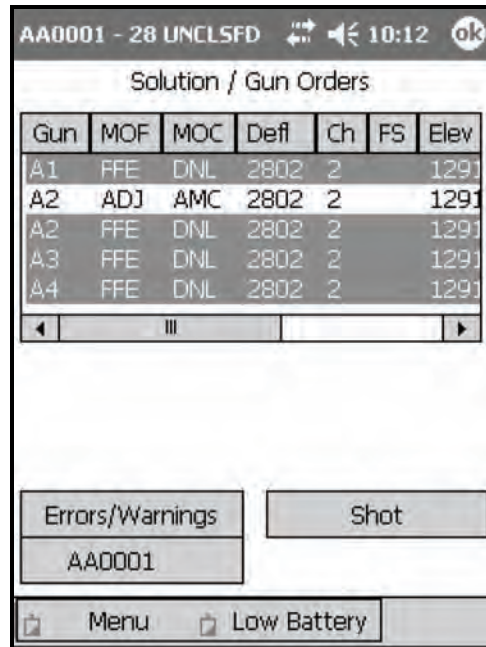

Figure 18-4. Solution/Gun Orders screen.
(9) Select Use All.
(10) If there are no errors or warnings, the Solution/Gun Orders screen (Figure 18-4) displays. Table 18-3 outlines all Solution/Gun Orders screen fields and buttons, and related information.